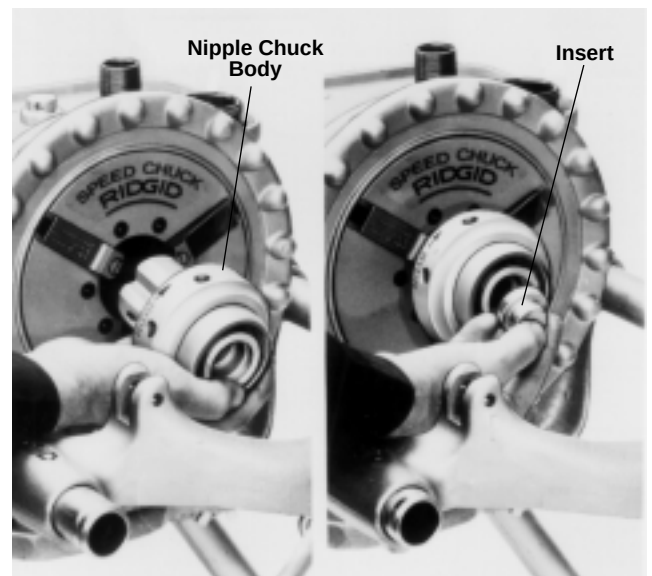

Figure 23 – Installing Nipple Chuck Body and Insert
3. Place nipple chuck body (Figure 23) in Power Drive chuck, gripping jaw grooves. Tighten chuck with snap spin of handwheel.
4. Position insert (Figure 23) with small end toward chuck body for $\frac{1}{8}$ " to $\frac{3}{4}$ " pipe; large end toward chuck body for 1" pipe; no insert required for 1 $\frac{1}{4}$ " pipe and up.